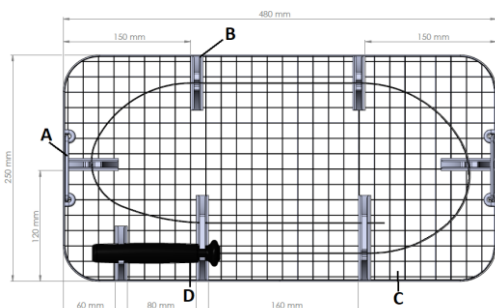

Figure 1: Sterilisation tray A-T02 top view securing reusable electrophysiology catheter handle/guidewire
3. Secure the handle/guidewire in the support bracket as indicated by **Figure 1**, ensuring the guidewire does not kink. Handles/guidewire assemblies are limited to one per tray.